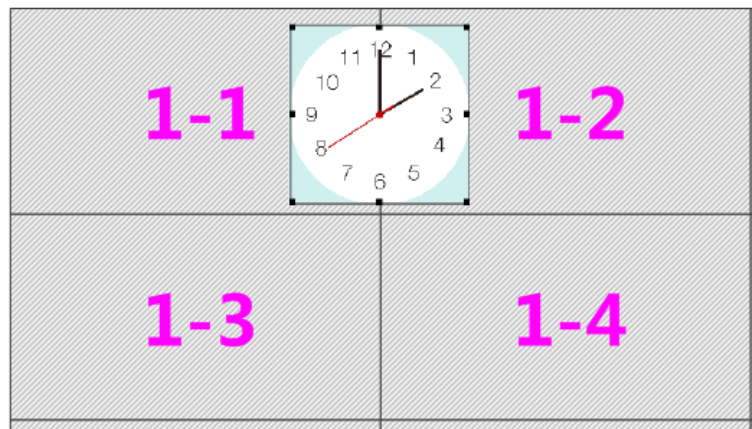

Figure 3.5-61 Analog Clock
- Particularly, when arranging the layout of analog clock, please abstain from crossing among screens. For example, as shown in **Figure 3.5-61**, the analog clock should not be arranged between 1-1 screen (connected with Output1) and 1-2 screen (connected with Output2).